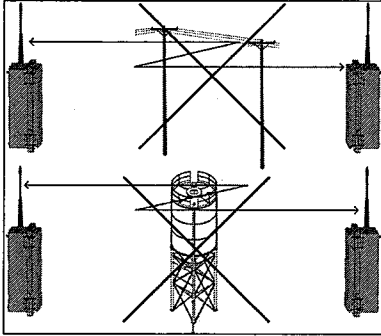
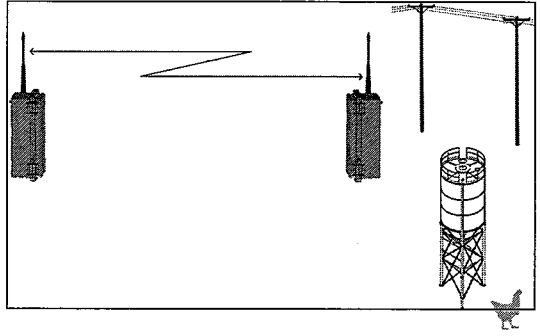

Figure 7: Obstacles in Path
Figure 8: Clear Path
- Ensure that there are no metal obstacles or power lines between the RLINKs (Figure 7 and Figure 8). These objects create electromagnetic interference.